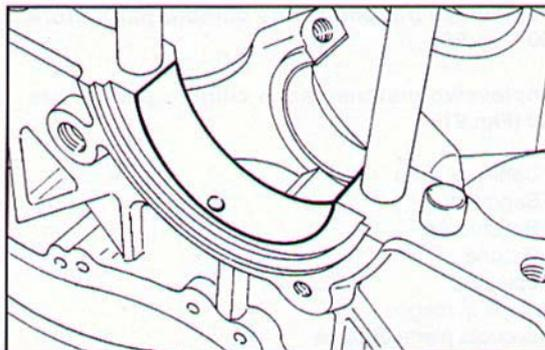

Fig. 92 ▲
**NOTE** The 2000 engines from no. 200360 and 2800 engines from no. 400828 mount a new type engine block and crankcase with wider main bearings and lubrication wells to improve flow of lube oil to the bushings (Figs. 92 and 93); the latter are also new, wider and with two lubrication holes each.